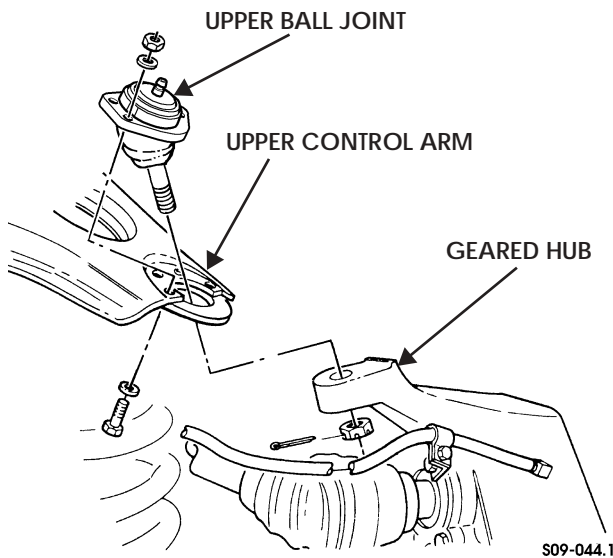

Figure 9-5: Upper Ball Joint
3. Remove cotter pin and slotted nut from upper ball joint. Discard cotter pin (Figure 9-5).